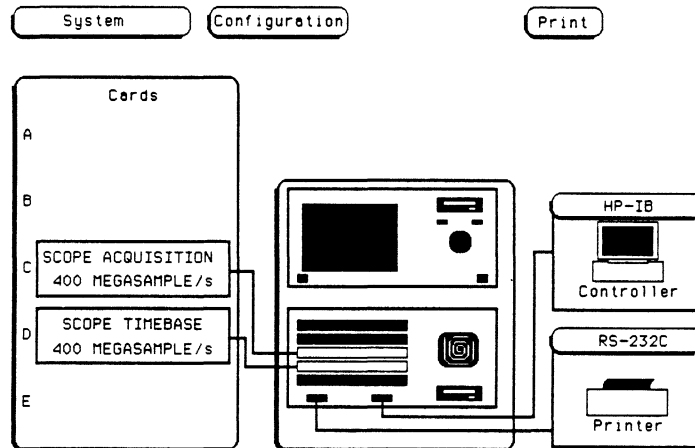

Figure 4-1. Startup Screen
- a. Turn instrument on and from the startup screen shown in figure 4-1, touch these fields in the numbered sequence below: